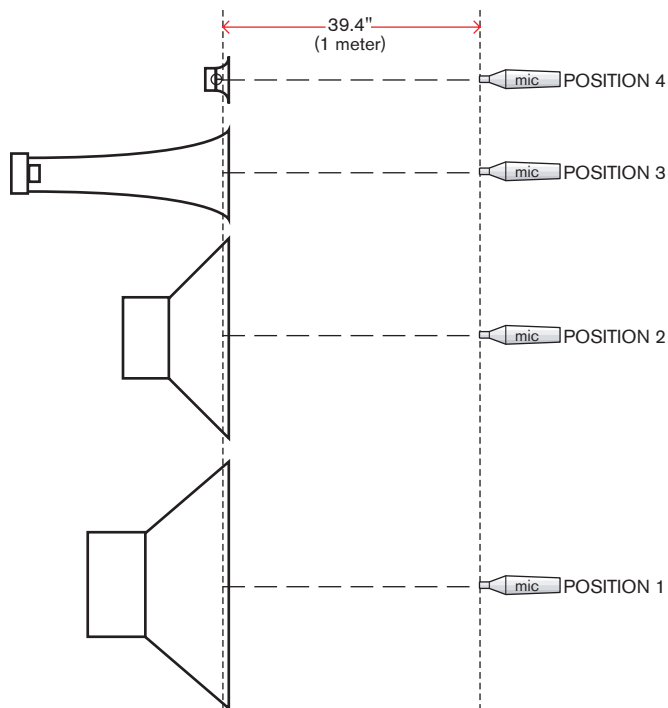

Figure 5. Setting Output Levels with a calibrated mic.
- a. Place the RTA mic on axis, 1 meter away from the Low driver as shown in Figure 5, Position-1.
- a. Place the RTA mic on axis, 1 meter away from the Low driver as shown in Figure 5, Position 1.
- b. Place the RTA mic on axis at 1 meter (see Figure 5).